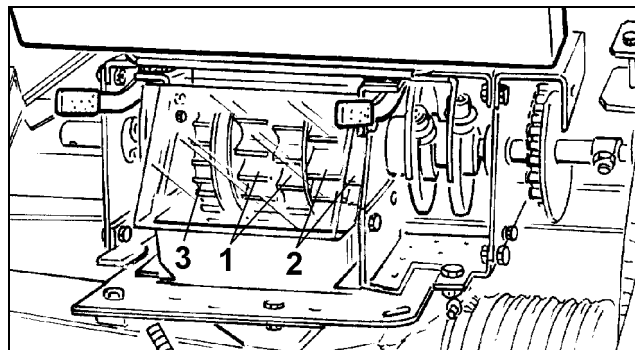

Fig. 59
- a white coloured main seed wheel (Fig. 59/1)
- an orange coloured main seed wheel (Fig. 59/2)
- a red/black coloured fine seed wheel (Fig. 59/3).